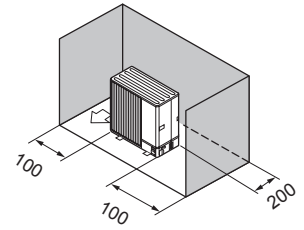

Fig. 2-26
- ③ Obstacles at rear and sides only (Fig. 2-26)